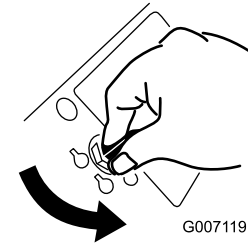

Figure 28
3. Turn the ignition key off (Figure 28).